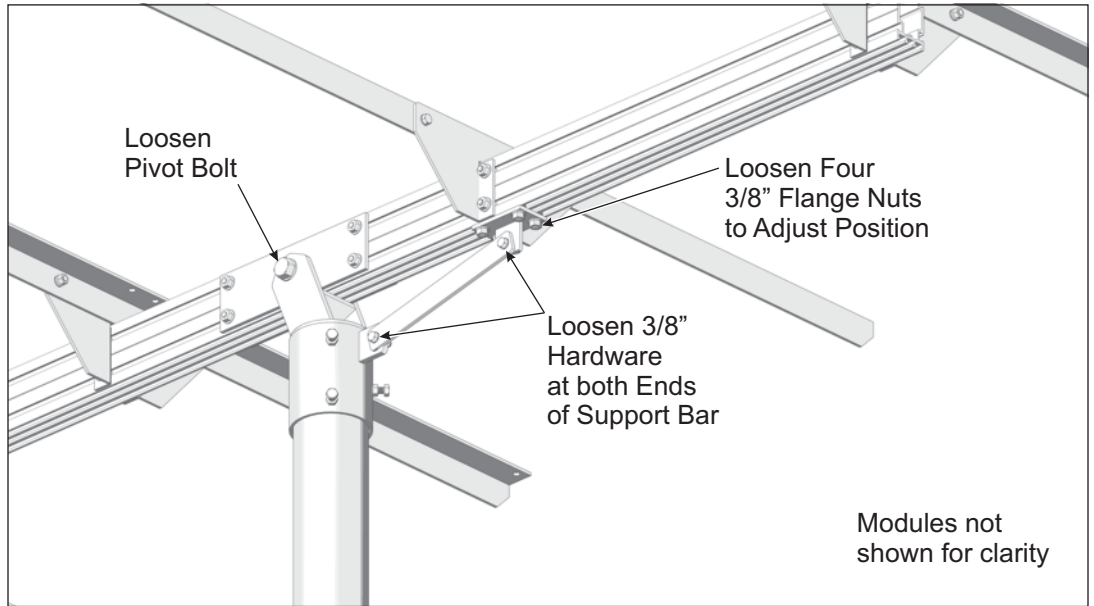

Figure 8-1: Adjusting Tilt Angle
- B. Tilt the rack to the desired elevation angle and re-tighten the 3/8" Flange Nuts securing the Mounting Tab to the Strongback and the 3/8" hardware at both ends of the Support Bar at the Support Bar Mounting Tab of the Strongback and the Pivot Tab of the Mounting Sleeve **Torque the 3/8" Flange Nuts to 32-34 ft.-lbs. and the 3/8" hardware to 32-34 ft.-lbs.** (See Figure 8-1)